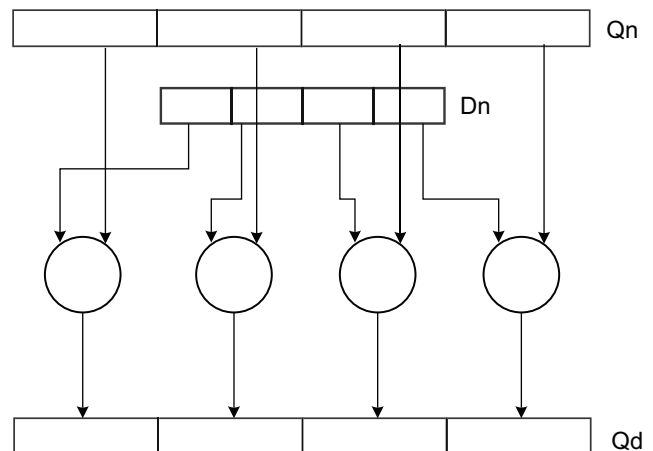

Figure 3-2 NEON wide instructions
- *Wide* instructions operate on a doubleword vector operand and a quadword vector operand, producing a quadword vector result. The result elements and the first operand are twice the width of the second operand elements. Wide instructions have a W appended to the instruction. Figure 3-2 shows this, with the input doubleword operands being promoted to quadwords before the operation.